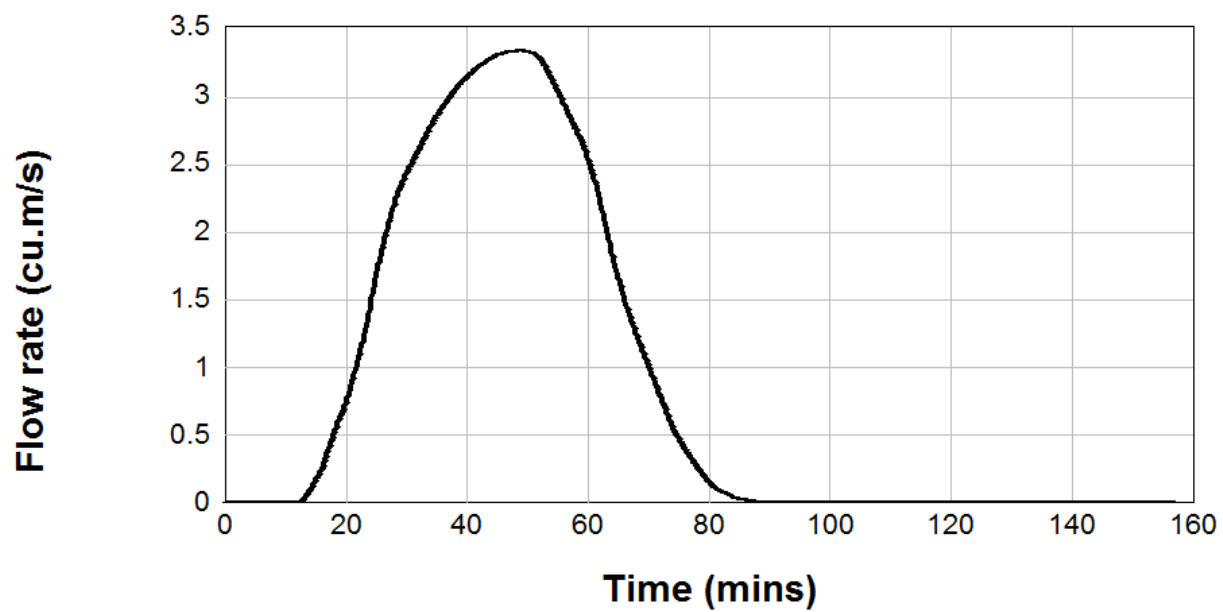

Figure 8 – Catchment Outlet – 20 Year ARI Storm – 60 minute duration
- ❖ Figure 8 Concept Trench Drainage Inlet Pit General Arrangement